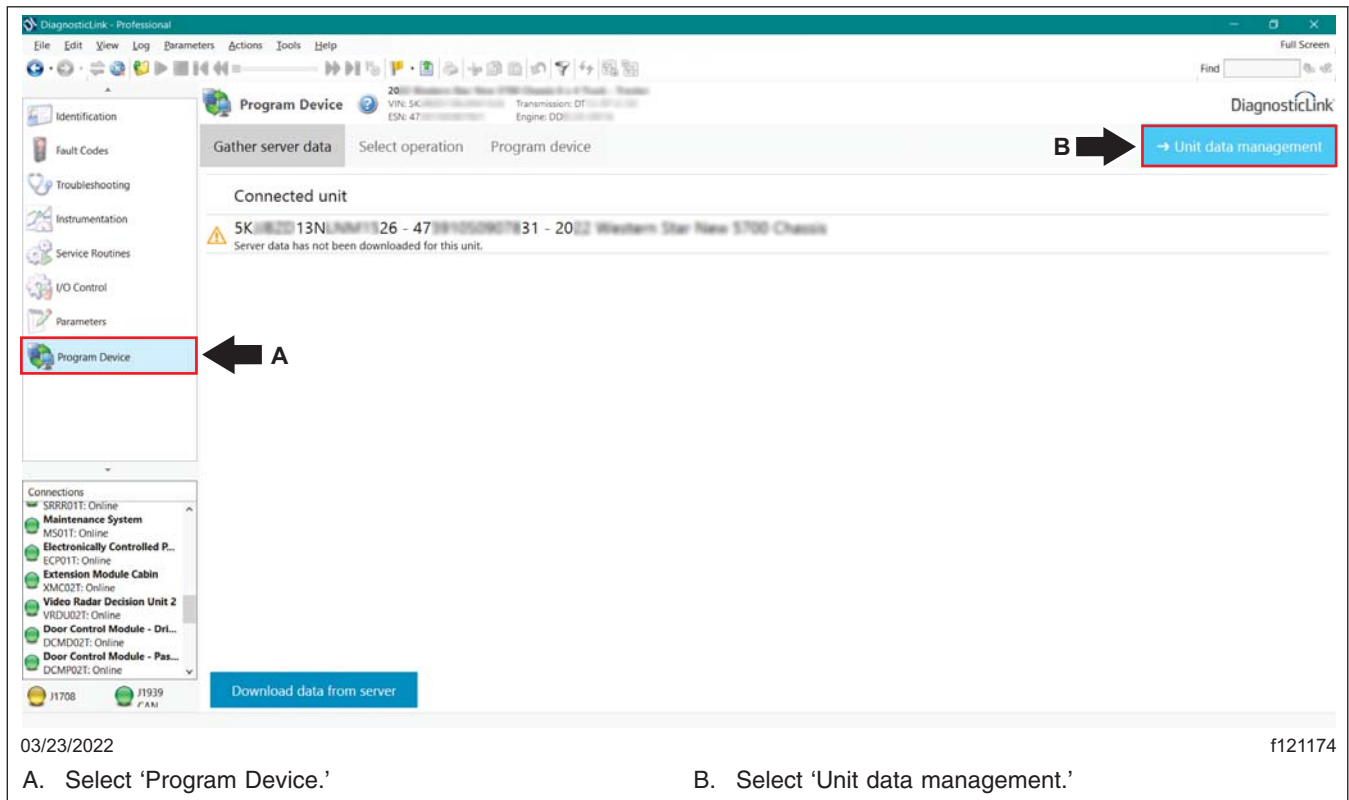

Fig. 6, Selecting Unit Data Management
11. Once the parameter changes are complete, go to the 'Program Device' tab. Select 'Unit data management' in the upper-right corner. See Fig. 6.